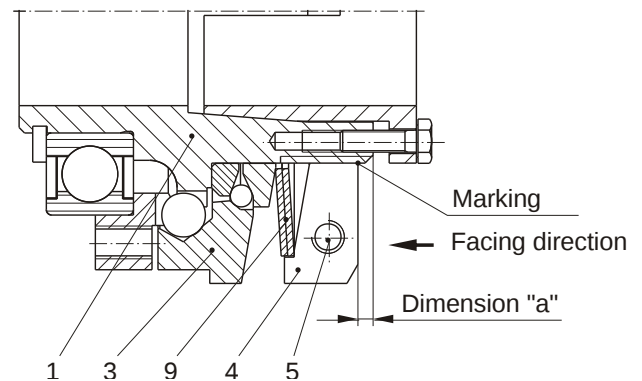
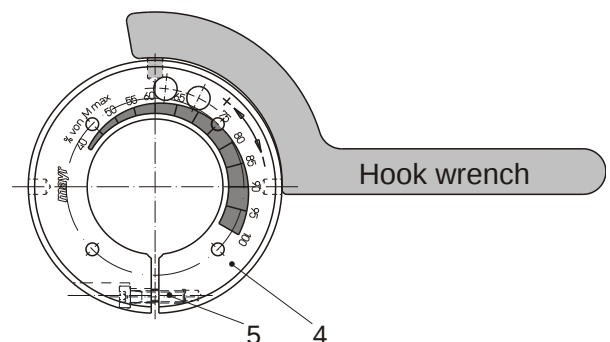
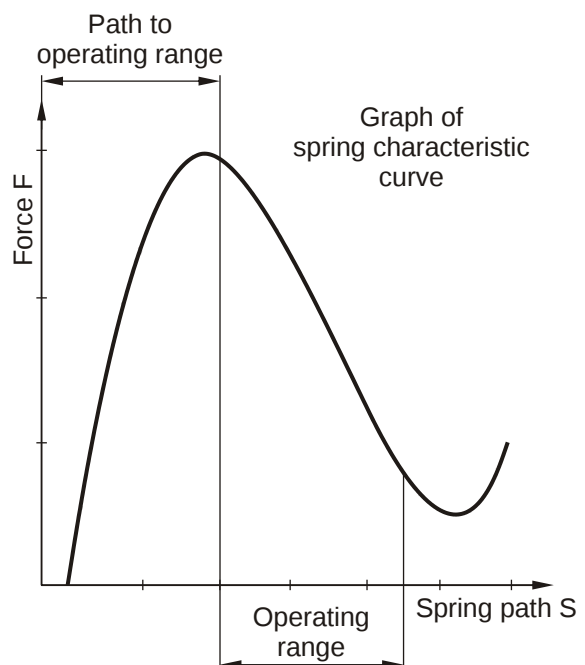

Fig. 10
Fig. 11
Fig. 12
Torque adjustment is carried out by turning the adjusting nut (4). The installed cup springs (9) are operated in the negative range of the characteristic curve (see Fig. 12); this means that a stronger pre-tensioning of the cup spring results in a decrease of the spring force.
It is possible to check the **"Spring operation in the operating range"** (Fig. 12) using the dimension "a" (distance from the adjusting nut (4) facing side to the hub (1) facing side, as shown in Fig. 10).
You should be facing the adjusting nut (4) as shown in Fig. 10 and Fig. 11.
- b) Loosen the locking screw (5) in the adjusting nut (4).
c) Turn the adjusting nut (4) using the engraved adjustment scale (Fig. 11) clockwise or anti-clockwise using a hook or a face wrench until the required torque is reached.
d) The required torque results from the marking overlap on the hub (1) and the percent value on the adjusting nut (Item 4 / Figs. 10 and 11).
e) Re-tighten the locking screw (5)
Adjusting the adjusting nut (4) or distorting the cup spring (9) outside of the cup spring characteristic curve (see Fig. 12) stops the clutch functioning.